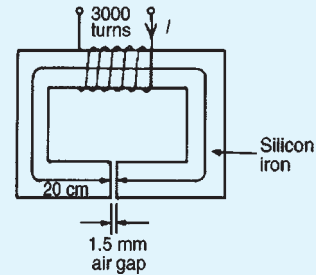

Figure 7.7
4. For the magnetic circuit shown in Fig. 7.7 find the current I in the coil needed to produce a flux of 0.45 mWb in the air gap. The silicon